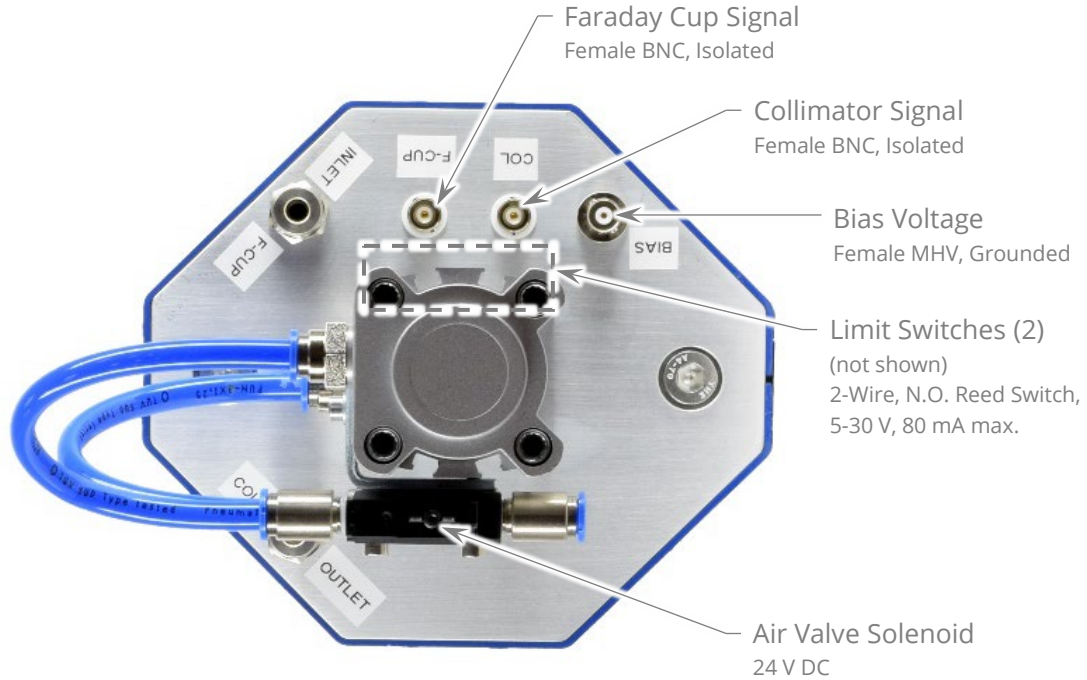

Figure 4: Electrical connections.
The FC-25.1K Faraday Cup has six (6) electrical connections: two (2) beam signal connections, one (1) bias voltage connection, and one (1) solenoid valve connection, and two (2) limit switch connections. These connections are shown in Figure 4. Table 3 lists the electrical connection types.